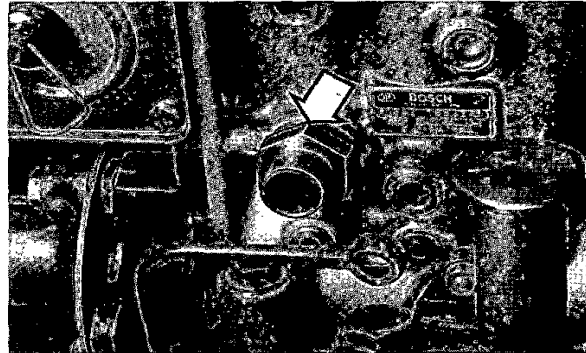

Fig. 132. Fitting of screw socket to tool 6770
8. Fit the screw socket to the tool 6770 on the injection pump (fig. 132). **NOTE! Without washer.** (The socket with inner quadrangular form fits the 60 series and the socket with outer hexagonal form fits the 70 series).